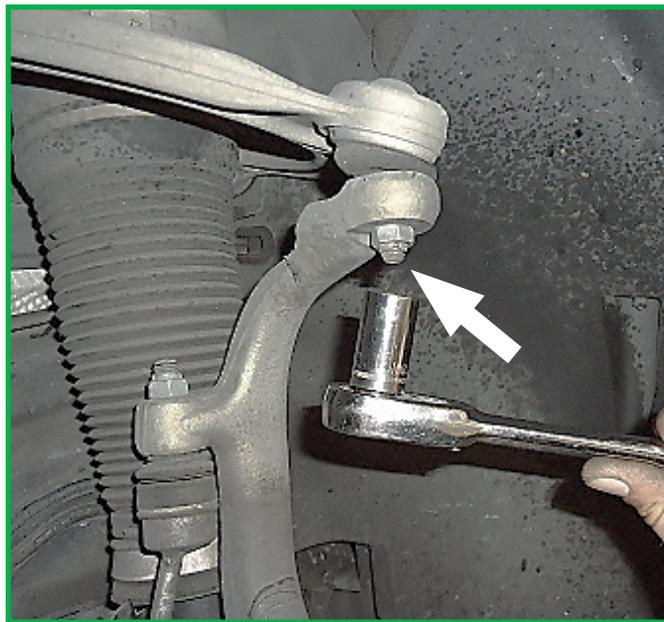

FIGURE 13
8. Loosen upper control arm nut. (Figure 13)